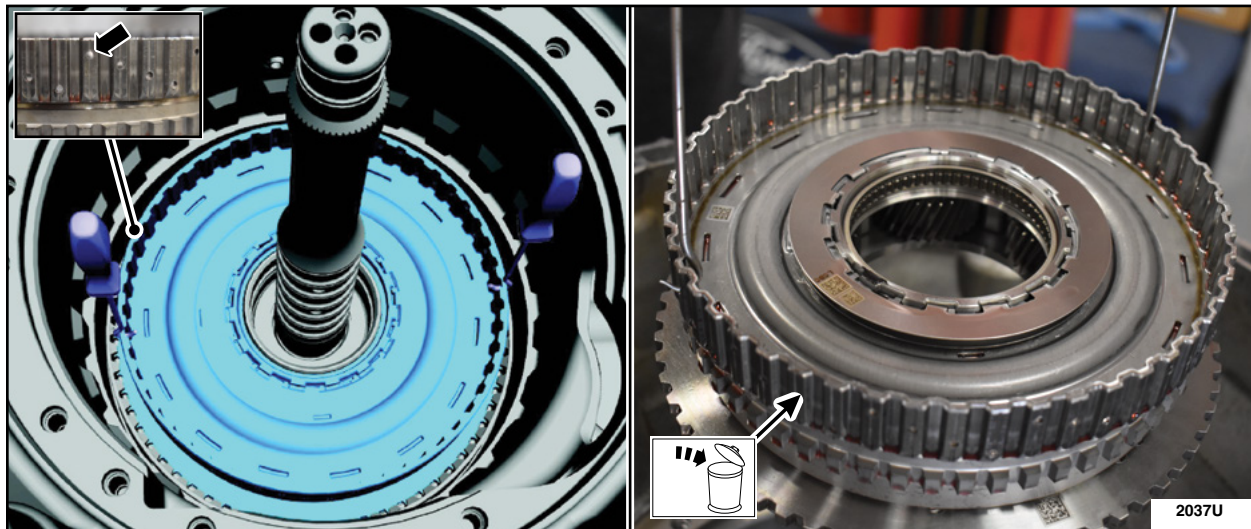

FIGURE 14
16. Using two pick hooks inserted into holes on the outside gear, remove and discard the number one planetary carrier. See Figure 14.